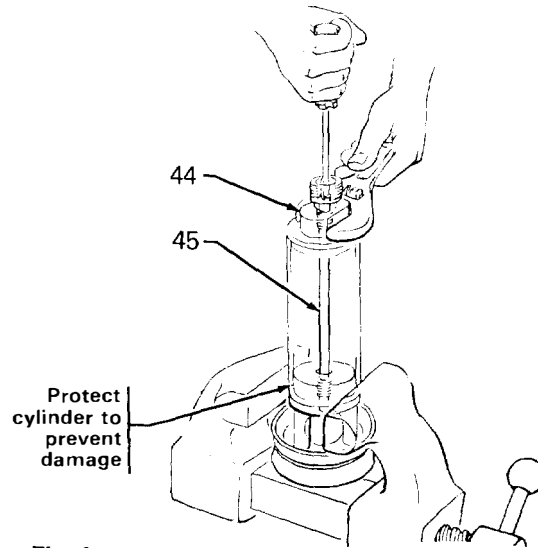

Fig 4
Disassemble pump as explained on page 4 and adjust valves as follows: Place piston in vise as shown in Fig 4, loosen upper displacement rod cap (44) to relieve tension on ball stop screw (45), adjust ball stop screw for desired ball travel and retighten upper displacement rod cap securely. Refer to Fig 4. Set intake valve pin as desired and reassemble pump.